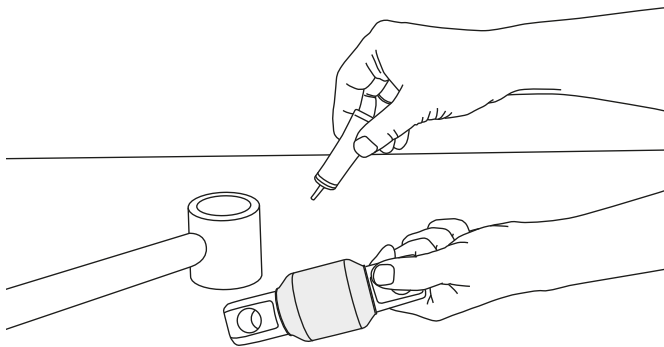

Figure 62: Lubricate Rod & Bush with Assembly Lubricant
1. Lubricate the inner diameter of the torque rod end hub and the new rubber bush with temporary assembly lubricant, such as P-80. Refer Figure 62.